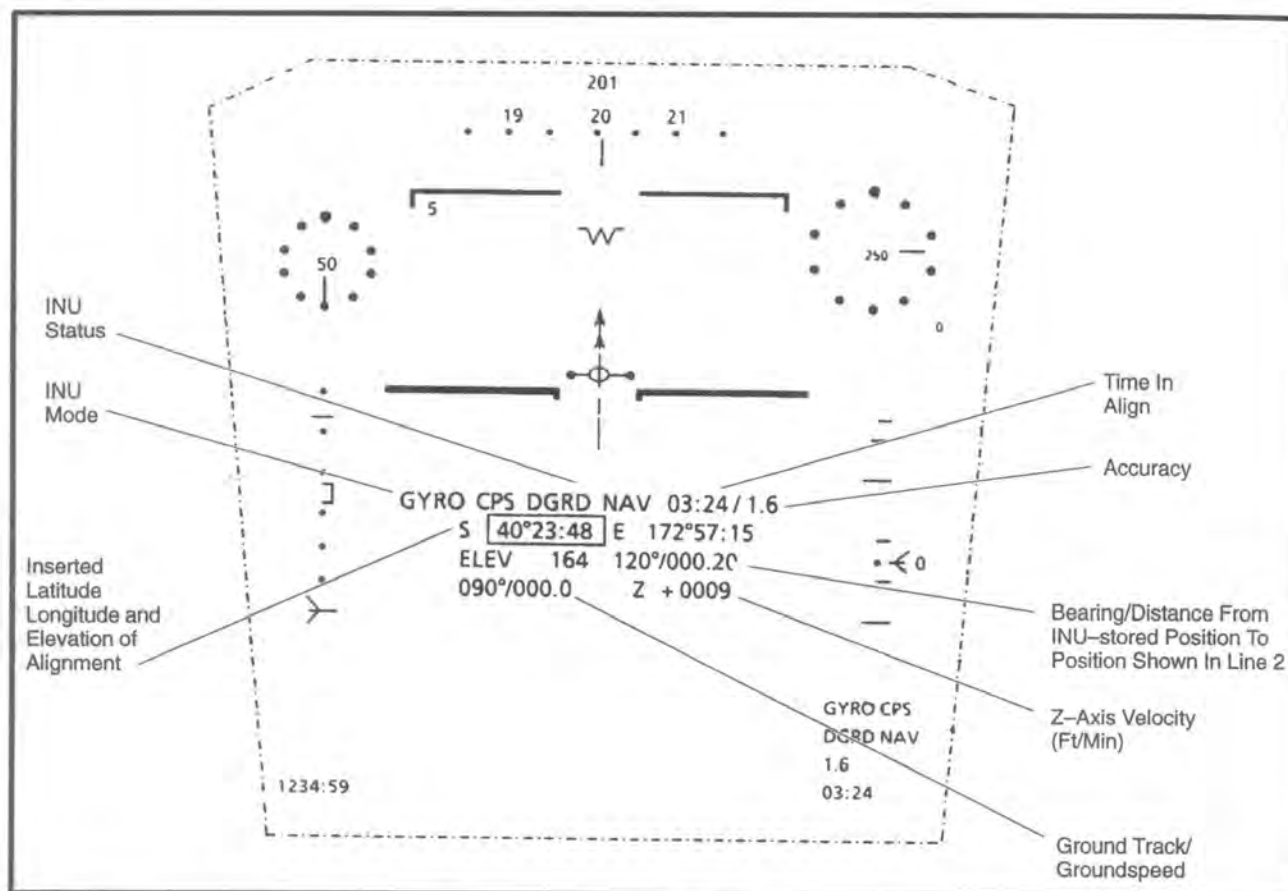

Figure 7-11 INU Scratchpad Indications During INU Alignment
7.103 The INU scratchpad display (Figure 7-11) is automatically displayed at power on, or can be selected via the DTA 1 keys. Aircraft position can be changed if required, using toggle and numeric data entry. If latitude or longitude is changed by greater than 1 arc minute, the alignment sequence will recommence. Table 7-12 describes each item in the scratchpad display.
7.104 From power up until the selection of NAV, an abbreviated form of the scratchpad alignment page is displayed in the right data windows. The data windows (Figure 7-11) contain the following entries from top to bottom: INU mode, INU status, accuracy, and time in align.